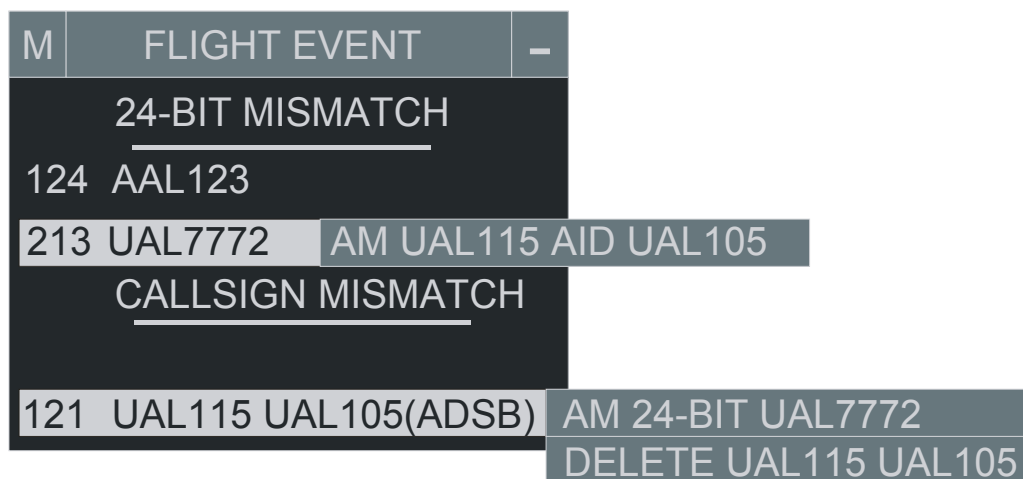

Figure 15–2. FEL View with Pop-up Pick Areas
Figure 15–2, FEL View with Pop-up Pick Areas, shows the FEL View with the 24-Bit and Callsign Mismatch Pop-up pick areas displayed. The pop-up pick areas are displayed adjacent and to the right of the selected FEL view entry. If the pop-up pick areas cannot be displayed to the right of the entry, they will be displayed adjacent and to the left of the selected entry. If there is not enough space at the bottom of the display to display the pop-up pick areas, it will be vertically adjusted upwards. When appropriate, a pop-up to amend a FEL entry will be paired with a pop-up to delete the entry. If both are valid for a given entry, the amend (AM) pop-up is displayed above the delete (DELETE) pop-up and the cursor defaults to the delete pop-up pick area.